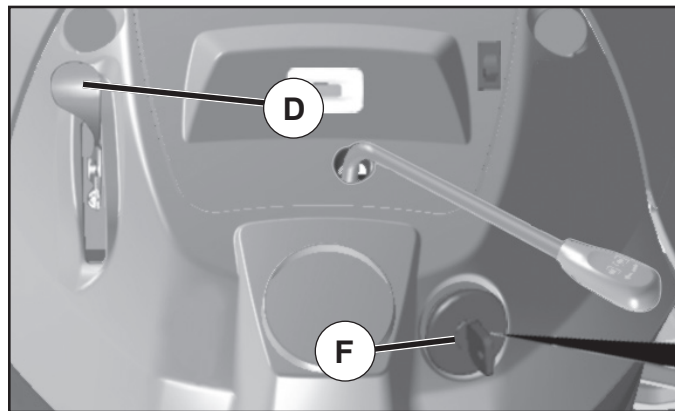

Fig. 6
- Turn ignition key (F) to "STOP" position and remove key. Always remove key when leaving tractor to prevent unauthorized use.
### TO USE THROTTLE CONTROL (D) (See Fig. 6)